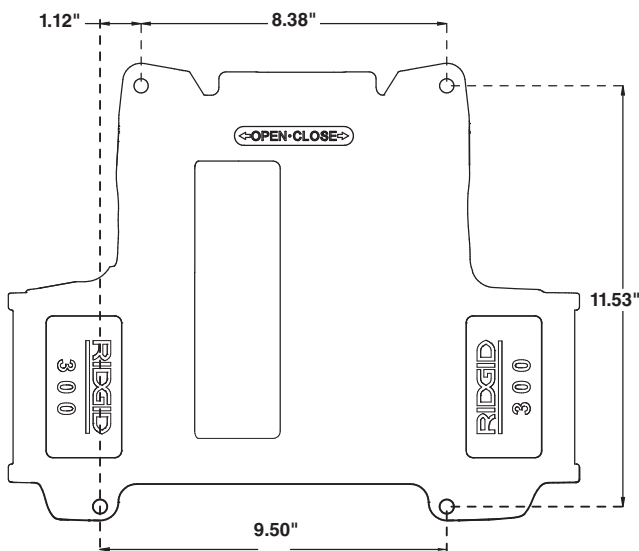

**Figure 5 – Adjusting Tray Support**
- b. Loosen the set screw on the rear tray support (see Figure 5).